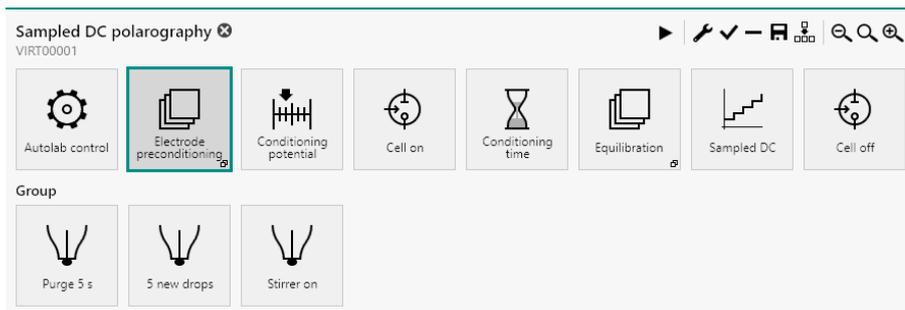

Figure 611 The Electrode preconditioning group
- **Electrode preconditioning:** this command group is used to create new mercury drops at the beginning of the procedure. The commands in this group are used to purge the solution for the specified duration, create the specified number of new drops and switch the stirrer on (see Figure 611, page 515).